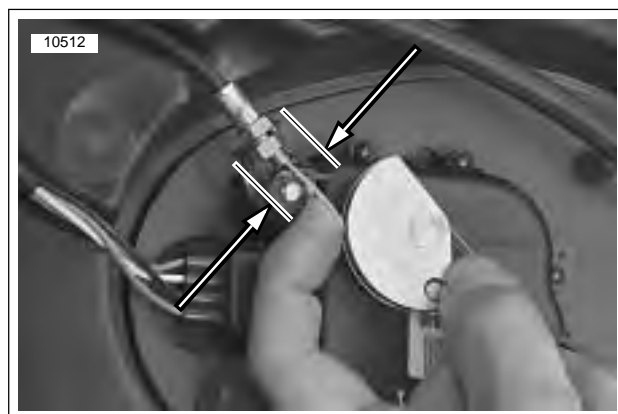

Figure 1-45. Checking For 1/8 in. (3.2 mm) Maximum Free Play In Either Direction For Proper Adjustment
9. See Figure 1-45. Adjust interactive exhaust cable as follows: